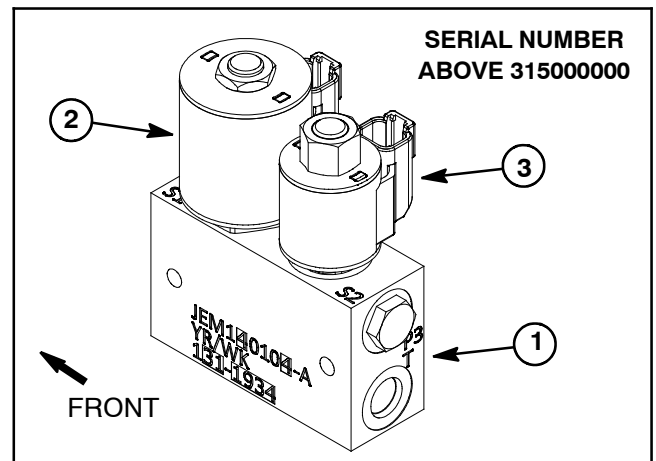

Figure 24
The hydraulic lift control manifold used on machines with serial number above 313000000 includes two (2) solenoid valves for system control (Fig. 24). When the solenoid coils are energized, valve shift occurs to control hydraulic flow. Electrical testing of the coils can be done with the coil installed on the hydraulic valve.